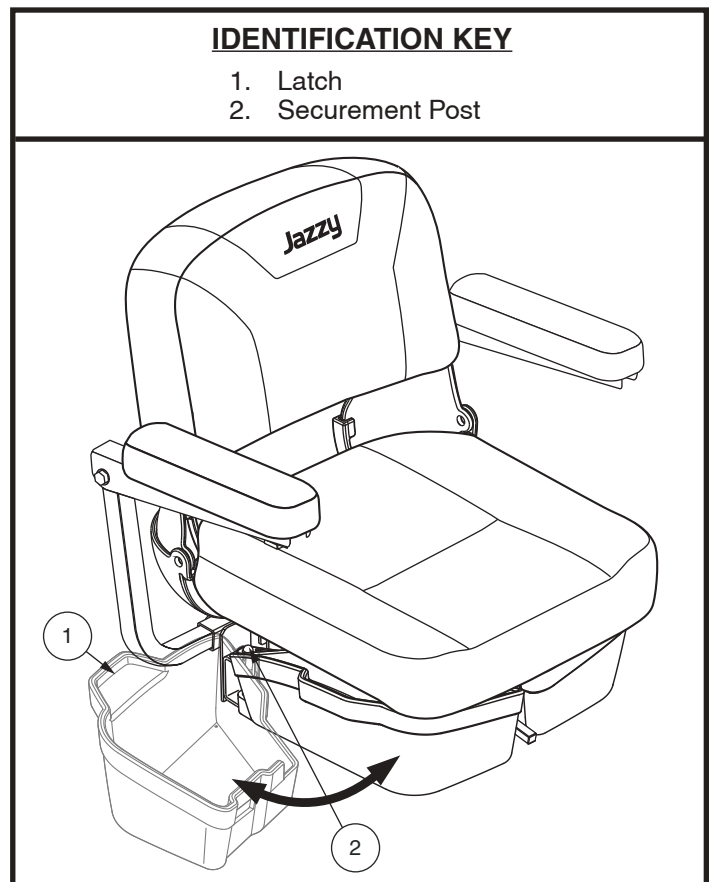

Figure 31. Under-seat Storage
1. Lift up slightly on the latch on the side of the under-seat storage bin (see figure 31) and swing the under-seat storage bin out and away from the Travel Scooter.
1. Lift up slightly on the latch on the side of the under-seat storage bin (see figure 31) and swing the under-seat storage bin out and away from the travel scooter until it is fully open.
2. If equipped, remove under-seat storage. See **Figure 31**.
7. If equipped, install under-seat storage. **See figure 31.**